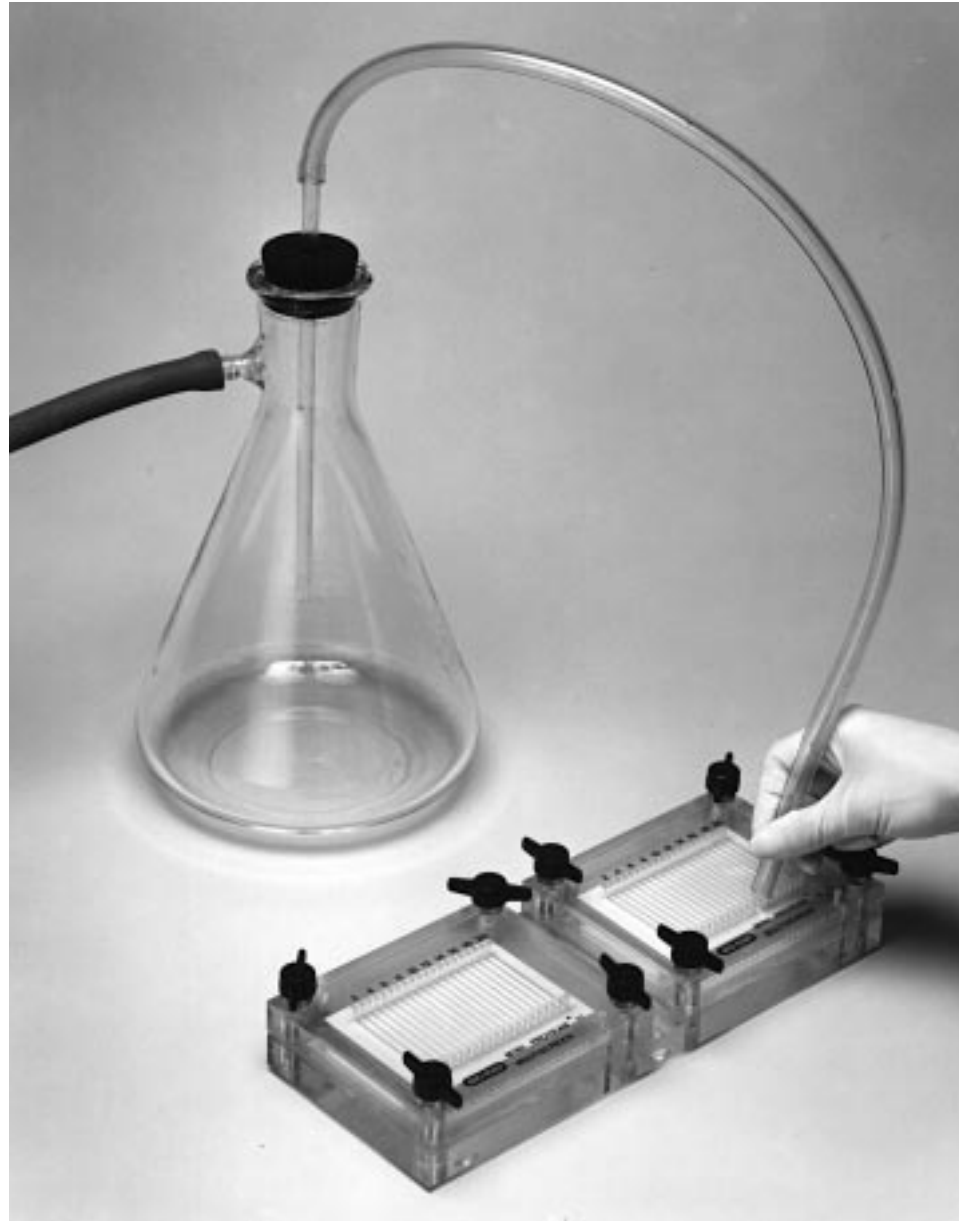

Fig. 4. Vacuum aspiration of sample and wash solutions.
3. Antibody samples and wash solutions can be rapidly removed by vacuum aspiration. The tubing from the vacuum source should be attached to the bottom, unmarked row of holes. Move the tubing back and forth along the row of holes until all the channels are dry (see Figure 4). To save an antibody or serum sample after incubation, remove the solution individually from the channel with a pipet or syringe.